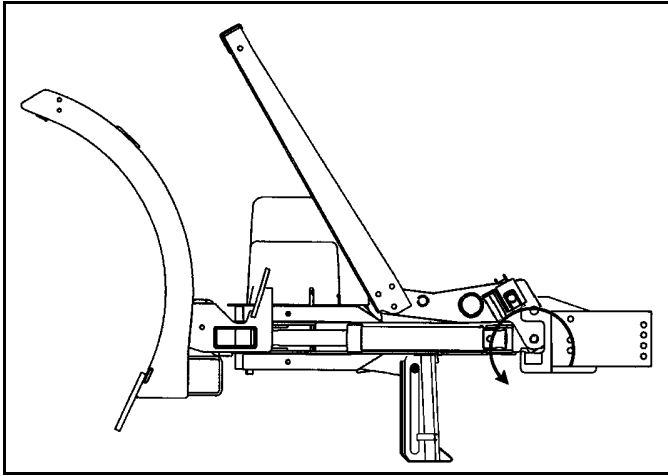

Figure 1-30
9. Rotate jack stand down and raise A-frame by pressing the up button. (See Figure 1-30)